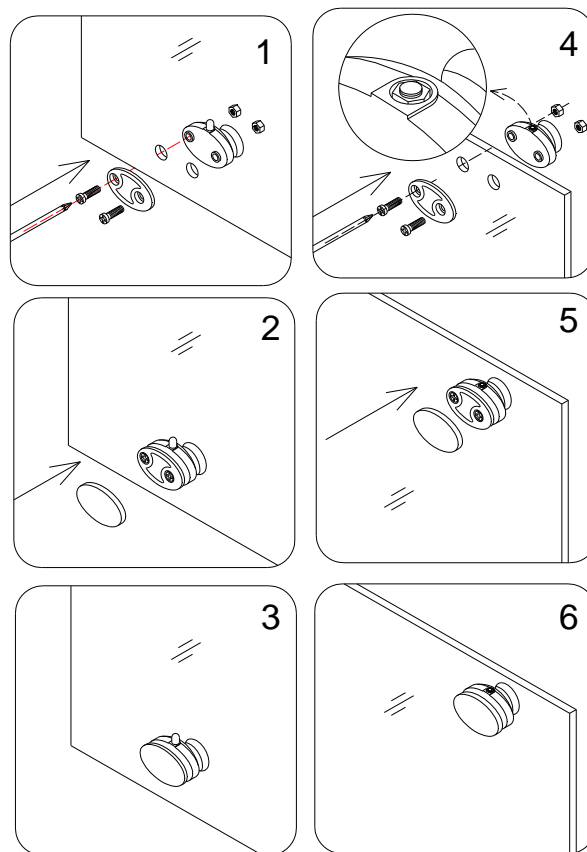

Fig. 12
NOTE: Glass Door (04) may come with the **Wheel assemblies (17)** preinstalled. If not, please refer to (Fig. 12) for detailed installation.
12. Fasten the top and the bottom **Wheel assemblies (17)** to the **Glass door (04)**. The top wheels can adjust the door level with the adjustable bolt and lock nut. The bottom wheel has a press button to fix the wheel on to the bottom **Guide rail (03)**.
See Fig. 12 for details.